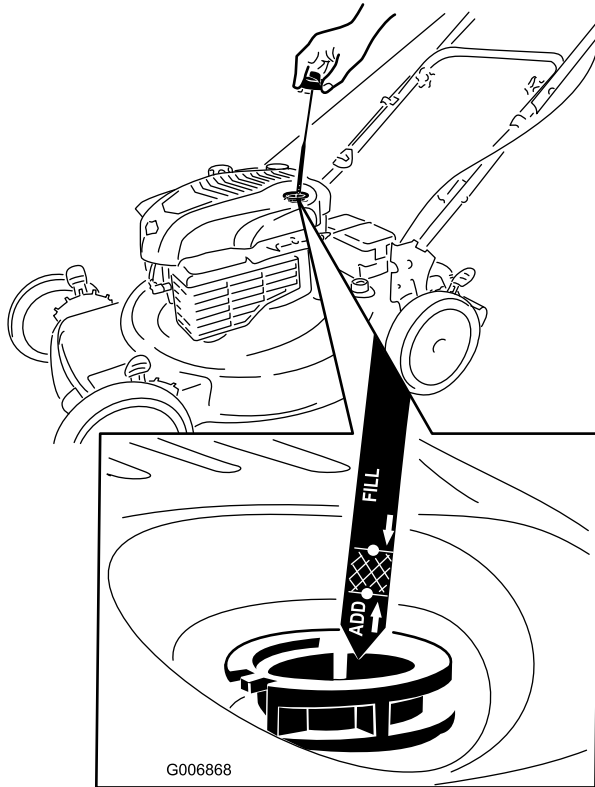

Figure 7
1. Remove the dipstick (Figure 7).
2. **Slowly** pour oil into the oil fill tube until the oil level reaches the **Full** line on the dipstick (Figure 7). **Do not overfill.** (Max. fill: 20 oz. (0.59 l), type: SAE 30 detergent oil with an API service classification of SF, SG, SH, SJ, SL, or higher.)